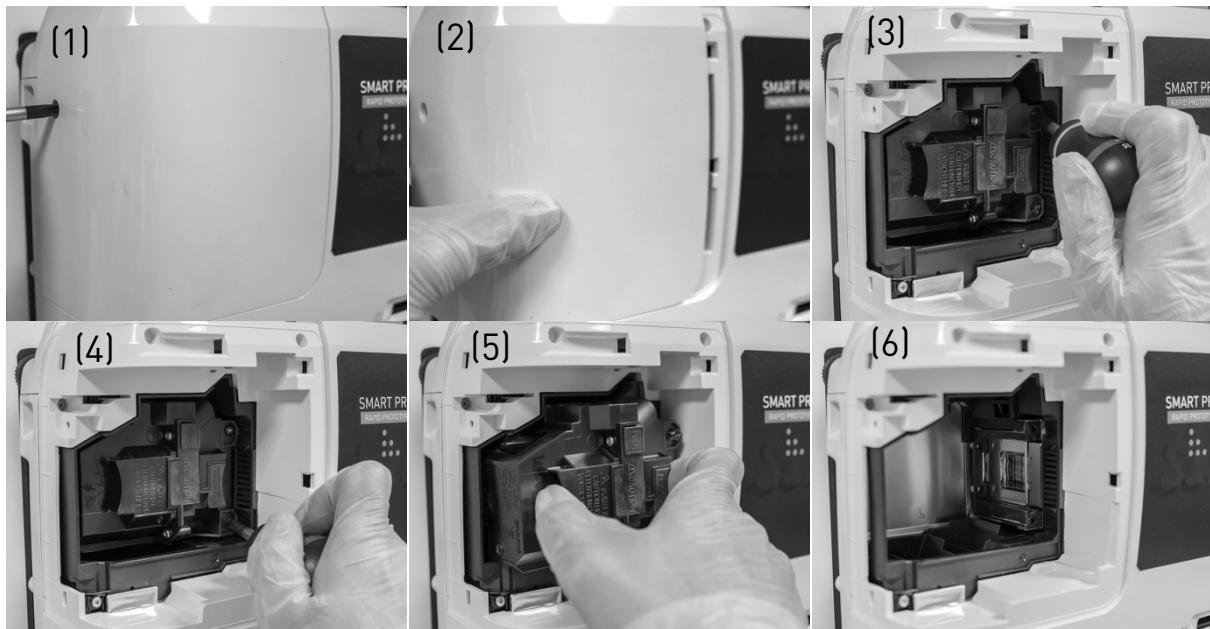

Figure 64 – main steps for lamp replacement
- a. Open the lamp cover (Figure 2) with a Phillips PH1 screwdriver (Figure 64 (1) and (2))
- b. Unscrew the lamp block (Figure 64 (3) and (4))
- c. Pull out the lamp block (Figure 64 (5) and (6))